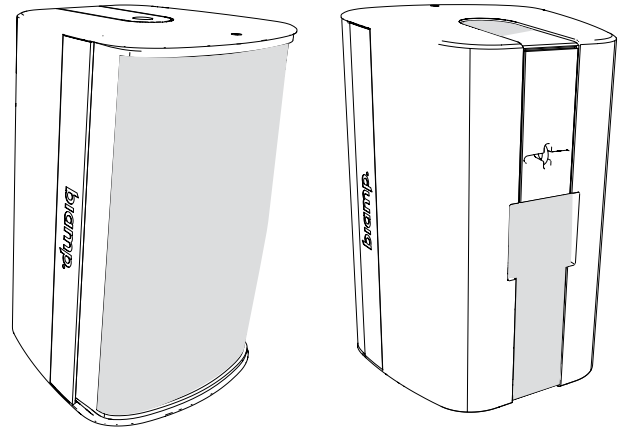

Figure 20. Mask off the full black face, all connection points, input panel, rear label, and latch access
2. Fully mask the full (black) loudspeaker face so that all internal components will not receive any paint. Also mask off the rear input panel (area around the tap switch) the retaining latch for the mounts, the rear label and latch access (Figure 20). For UB models, the center mounting holes and teeth on both ends must also be masked. We advise against using conventional masking tape and NEVER use duct tape: these kinds of tape generally leave adhesive residue that can be difficult to remove and that may actually cause damage. Painter's or other low-adhesive tape is best.